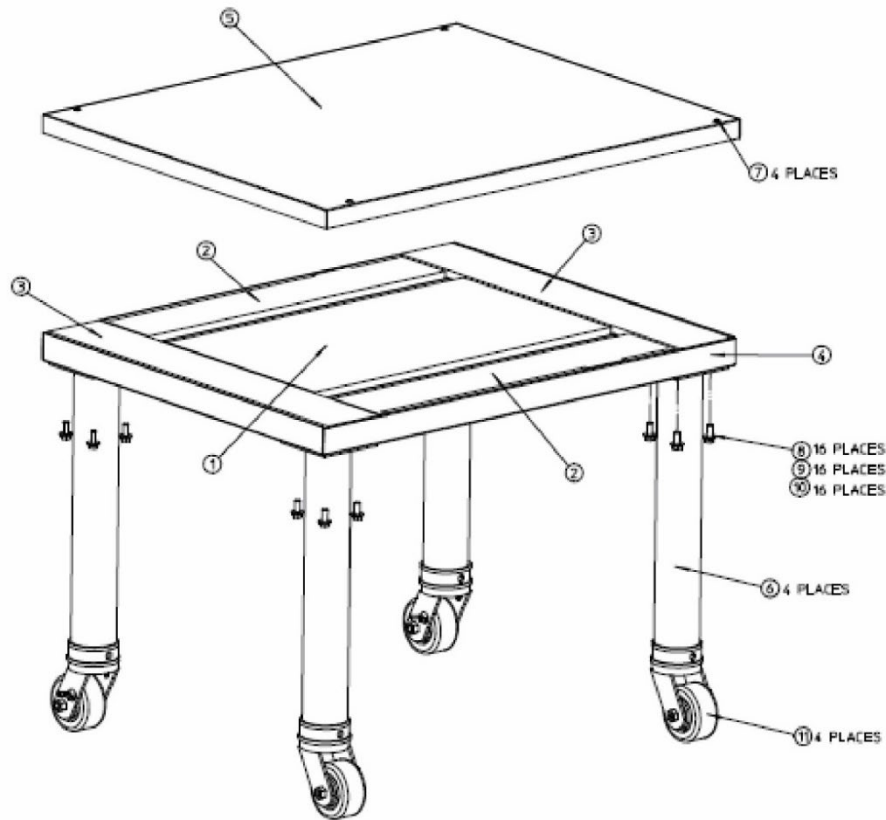

Figure 18. Oven Stand Parts
1. Locate the carton containing the oven base. Remove and inventory the contents. Refer to the correct parts lists on pages 19 to 21 and also to Figure 18.
2. Lay Wldmt. Base (Item 4, Figure 18) upside down on the floor and remove the protective film from base. Attach the four Assy. Leg, Caster (Item 5) using 16 SCR, Cap HX HD 3/8"-16X1" NP (Item 10), 16 Washer, Flat SS 3/8" (Item 9), and 16 Washer, Lock Split 3/8" ZP (Item 8).